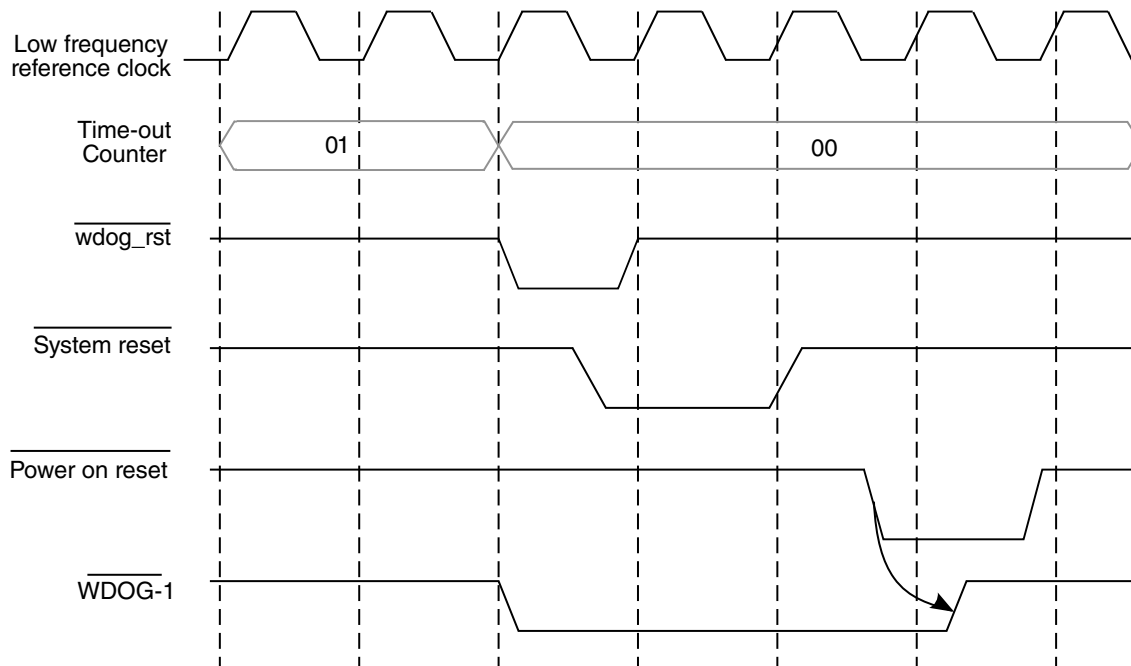

Figure 46-4. WDOG timeout condition/WDT bit is set
- WDOG timeout condition, WDT bit of Watchdog Control \(WCR\) must be set for this scenario. A description of the timeout condition can be found in the Timeout event. WDOG\_B (ipp\_wdog) signal remains asserted until a power-on reset (POR) occurs. It gets cleared after the POR occurs (not due to any other system reset). Figure 46-4 shows the timing diagram of WDOG\_B (ipp\_wdog) due to timeout condition.